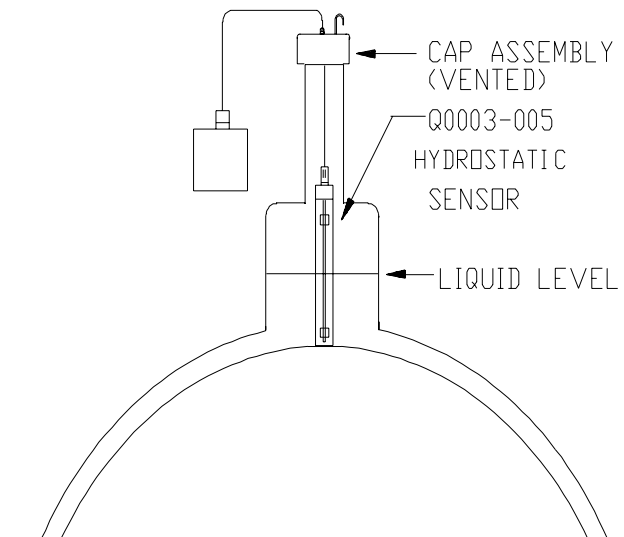

Figure 8: Hydrostatic Interstitial Sensor
2. Install the sensor as shown in *Figure 8*.